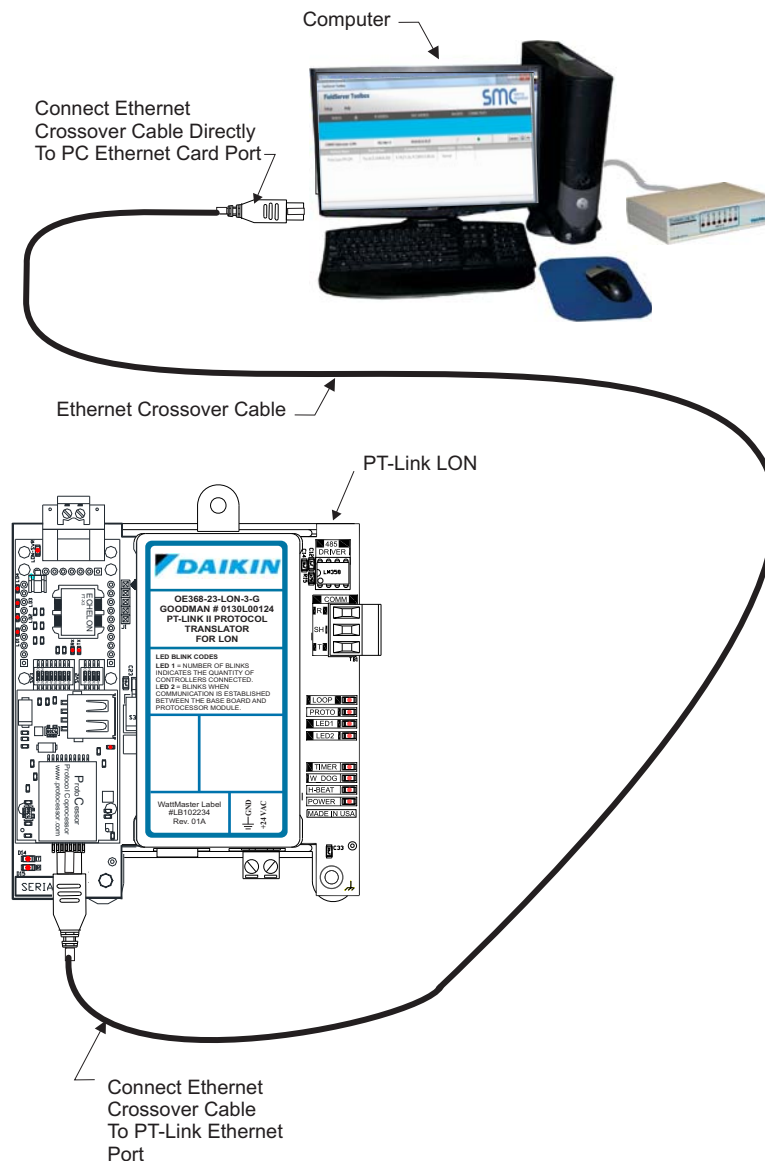

Figure 29: Connecting With Crossover Cable
1. Refer to **Figure 29, page 16** for instructions on how to connect your PT-Link to your computer using an ethernet connection.